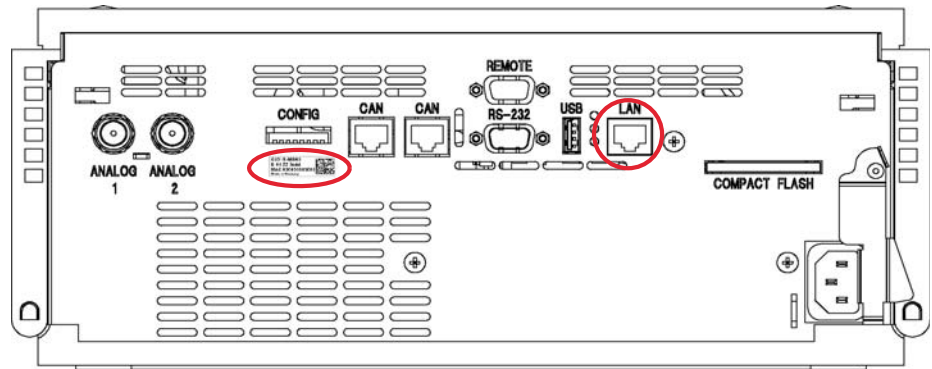

Figure 85 Location of LAN interface and MAC label
- 1 Note the MAC (Media Access Control) address for further reference. The MAC or hardware address of the LAN interfaces is a world wide unique identifier. No other network device will have the same hardware address. The MAC address can be found on a label at the rear of the module underneath the configuration switch (see Figure 85 on page 262).
- 2 Connect the instrument's LAN interface (see Figure 85 on page 262) to